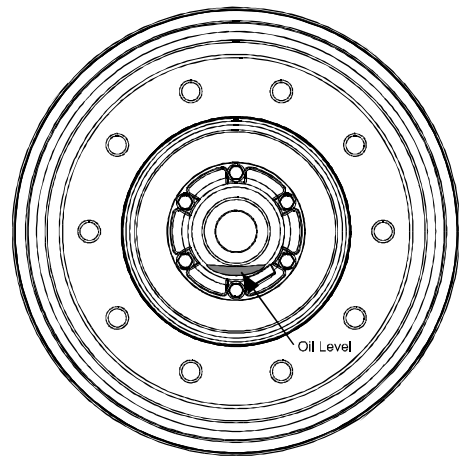

Figure 12 - Wheel Bearing Oil Level
18. Check oil level through the hubcap window. (Figure 12). If level is below the “add” level line, then fill with recommended oil until “full” level is achieved. Add oil slowly since the heavy weight oil will settle slowly in the hub. (Note: The hubcap window can only be cleaned with mild soap and water. Aromatic solvents should not be used, as they will impair the transparency of the window.)